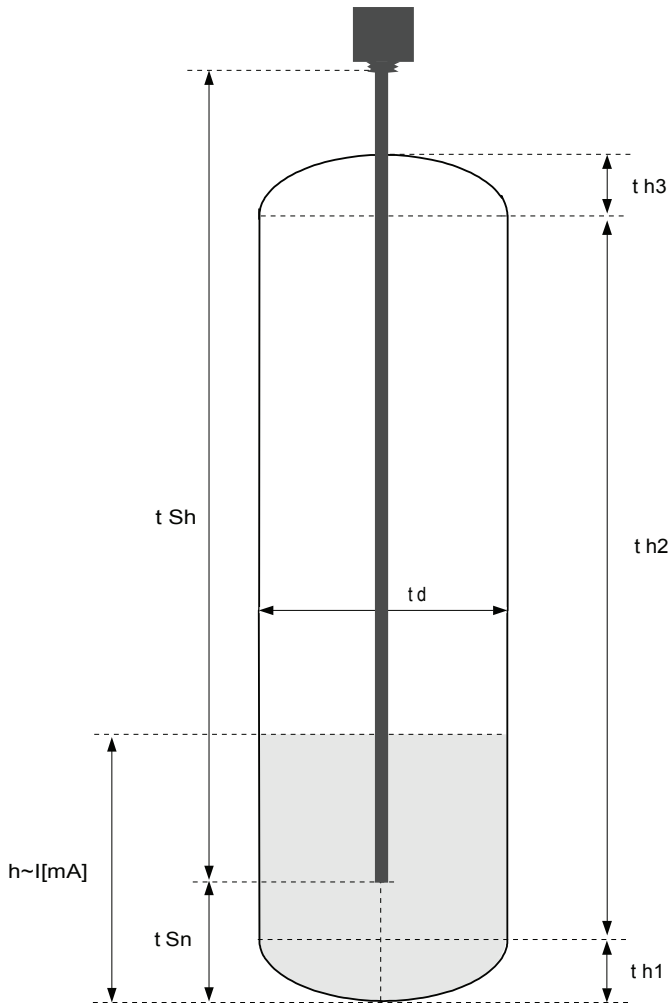
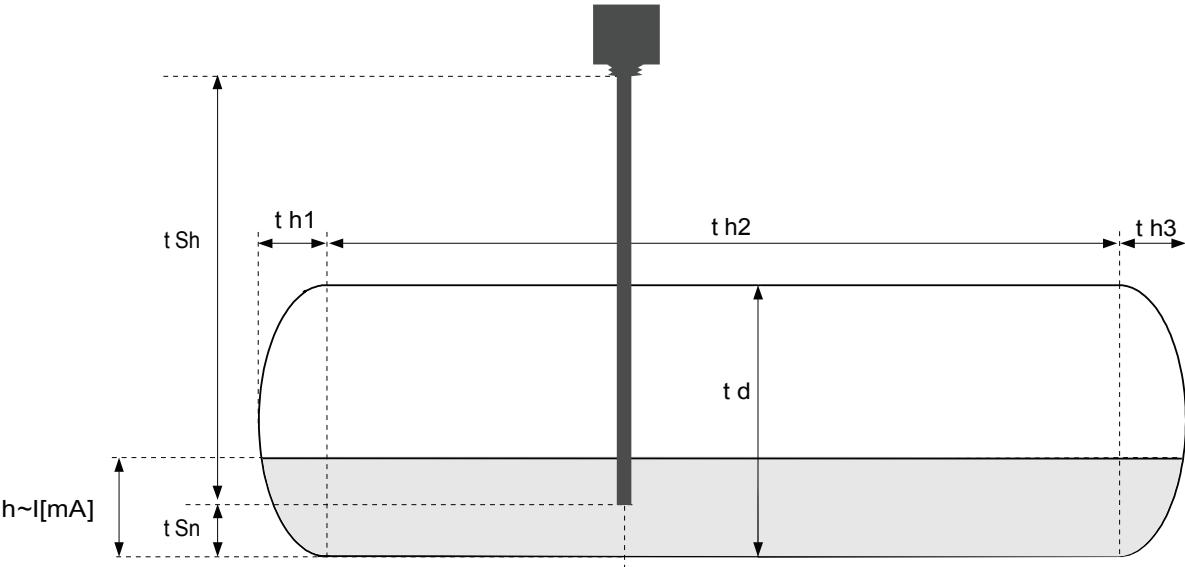

Figure 7.1 Parameters of cylindrical tank in vertical position.
Figure 7.2 Parameters of cylindrical tank in horizontal position.
„t h1”, **„t h2”**, **„t h3”**, **„t d”** - the parameters defining shape of cylindrical tank (Figure 7.1 and Figure 7.2).
- „t Sn”, „t Sh”** - parameters defining the length and position of the sensor used to measure level of liquids, gases or solids in the tank (Figure 7.1, 7.2).